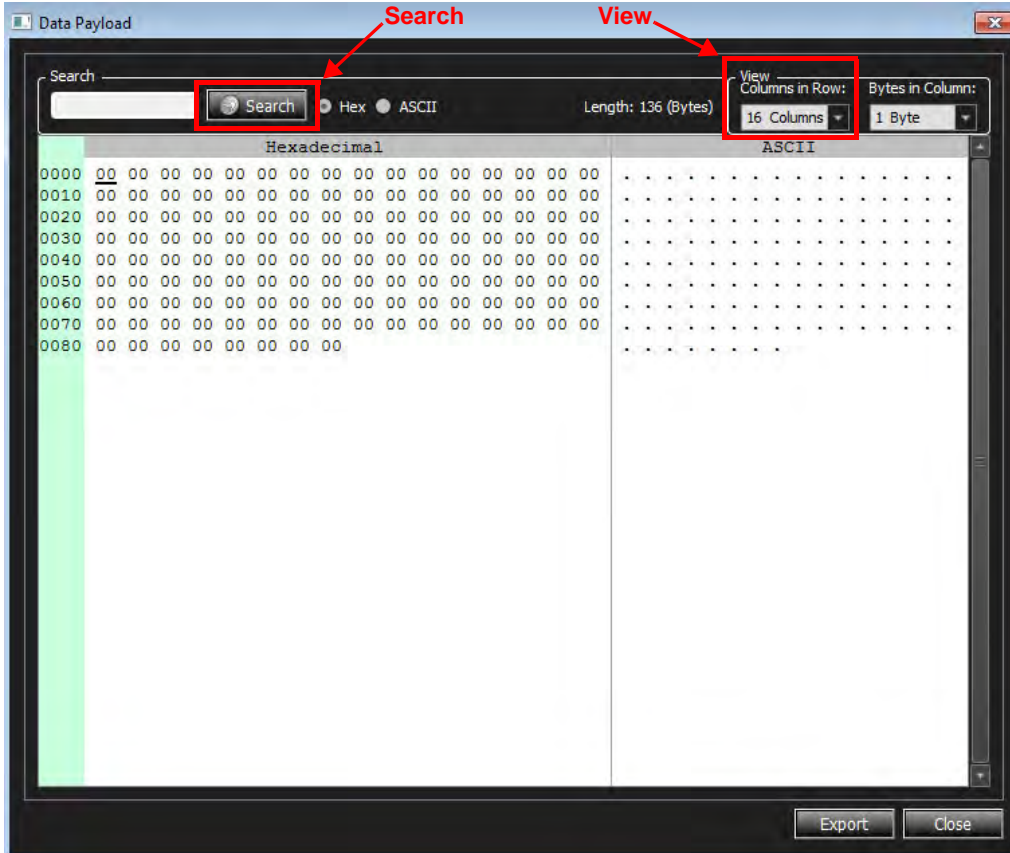

Figure 5.12: Data Payload Window
1. Click the  icon to display the Data Payload window (Figure 5.12).